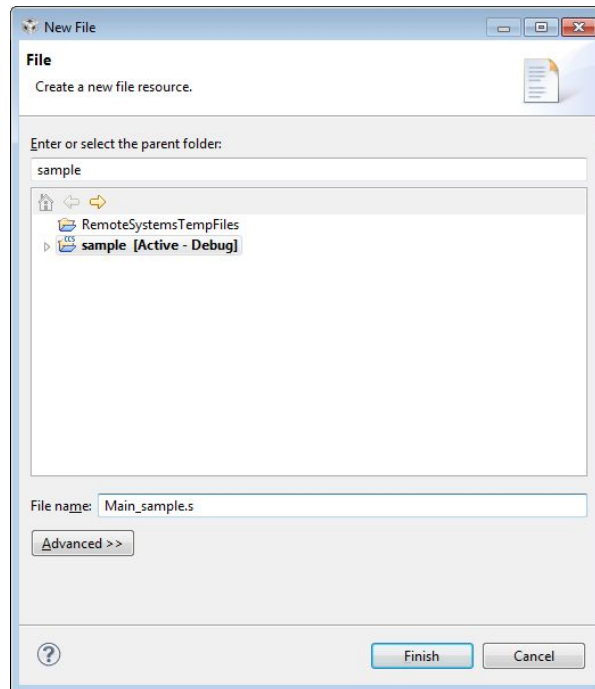
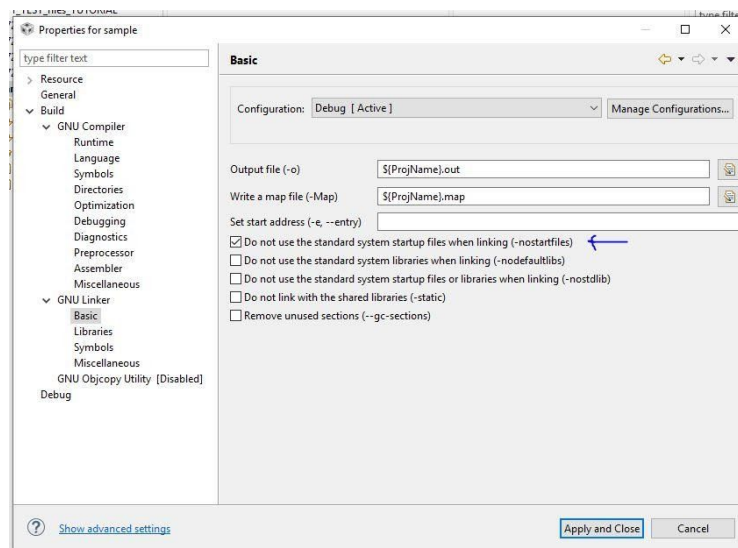

Figure 18 : Creating a new Assembly file (.s)
Figure 19 : GNU Linker Option
- To open the emulator configuration, go to **View -> Target Configuration** (as shown in Figure 18)
- Once the Setup of the emulator is done, we need it to load the program we have built using the tool chain. To do that, go to **View -> Target Configurations** (shown in Figure 18). There select the **.ccmxl** file we have configured, right click and select “**Launch Selected Configuration**” (see Figure 19)